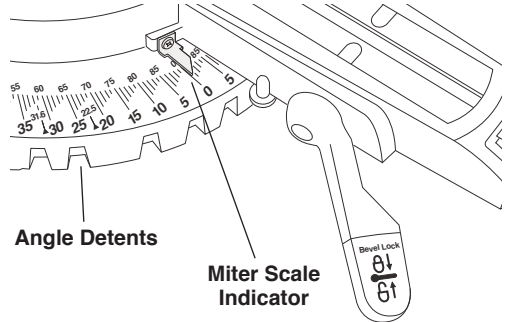

Figure 27. Miter Scale Indicator
1. Move the table to the detented angle that is to be adjusted (Figure 27).